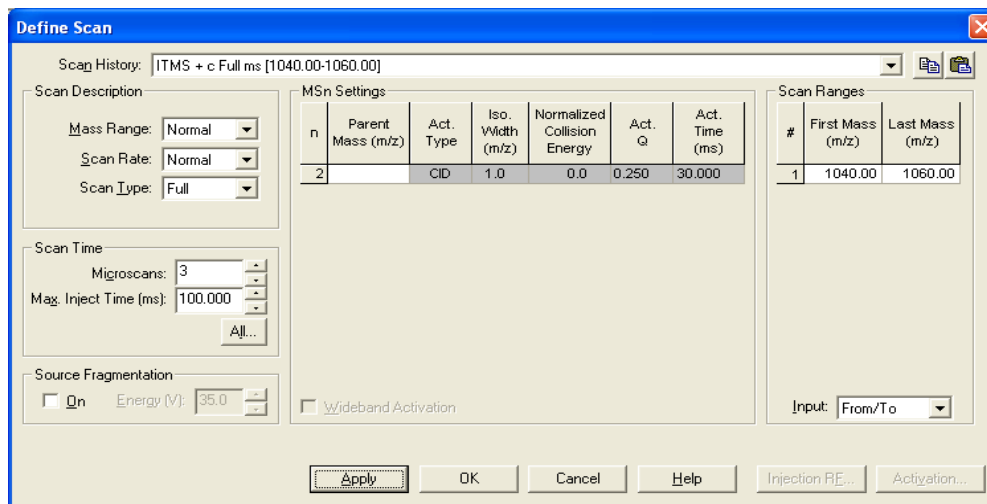

Figure 10 Define Scan as shown in XCalibur
4. Set the scanning to a narrow mass range(see Figure 10):